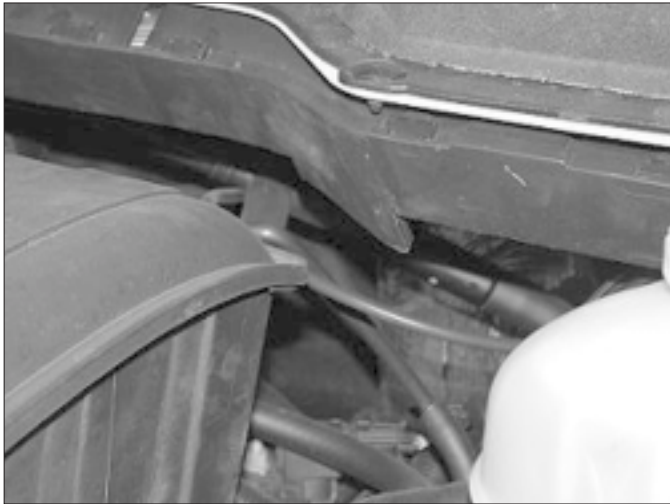

Fig. 8-a
- E. Route the wires across the firewall to the factory engine control unit. It is best to open the factory wiring harness cover and pass the wire through it. (See Fig. 8-a.)